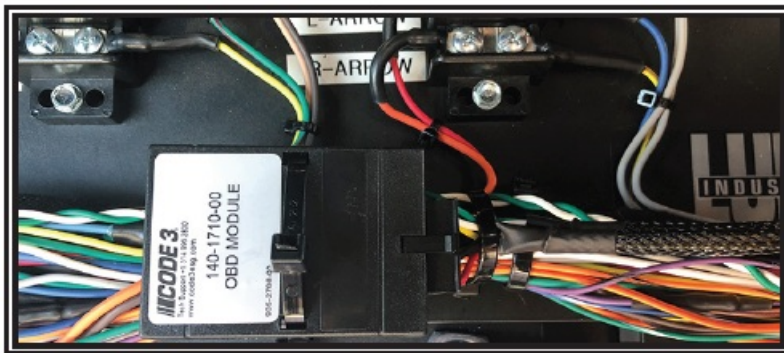

Figure 8
- Step 2. Connect the OBDII Device to the 14-pin connector on the OBDII Harness. Secure the device away from moving parts. See FIGURE 8.